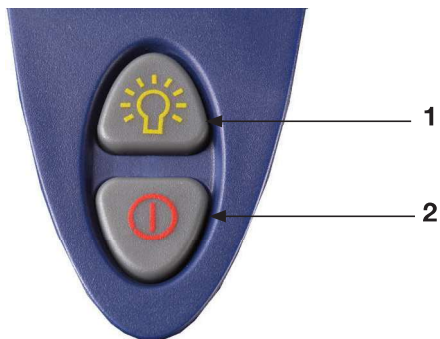

Figure.3.2: Function keys
Press the power-key to turn on and turn off the meter (see fig 3.2, key 2). When the meter is powered on, the preset alarm value and current air temperature will be blinking on the LCD. The meter is now running a self-test and will finish in about 15 seconds with a short beep. It will then enter the measuring mode.
Users can select °C or °F as the temperature unit by pressing the backlight key (see fig. 3.2, key 1) for more than 1 second during the self-test.
The alarm value of the meter is preset at 25 ppm to give warnings of possible danger. Users can adjust the value for different needs or standard by turning off the meter, then press and hold the power-key (see fig. 3.2, key 1) until the value options appear in the display. There are 10, 25, 30, 35, 45, 50, 70 and 100 ppm displaying in cycles. Release the button to select the preferred value. Then the meter will return to Self-Test mode in some seconds.
The meter features backlight function for using in dark areas. Press the backlight to activate and switch off the backlight. (Figure 3.2, key 1).